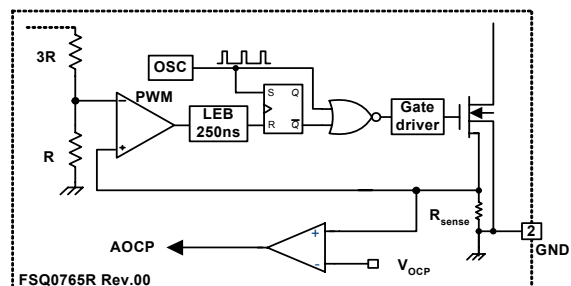

Figure 31. Abnormal Over-Current Protection
4.2 Abnormal Over-Current Protection (AOCP): When the secondary rectifier diodes or the transformer pins are shorted, a steep current with extremely high di/dt can flow through the SenseFET during the LEB time. Even though the FSQ-series has overload protection, it is not enough to protect the FSQ-series in that abnormal case, since severe current stress is imposed on the SenseFET until OLP triggers. The FSQ-series has an internal AOCP circuit, shown in Figure 31. When the gate turn-on signal is applied to the power SenseFET, the AOCP block is enabled and monitors the current through the sensing resistor. The voltage across the resistor is compared with a preset AOCP level. If the sensing resistor voltage is greater than the AOCP level, the set signal is applied to the latch, resulting in the shutdown of the SMPS.